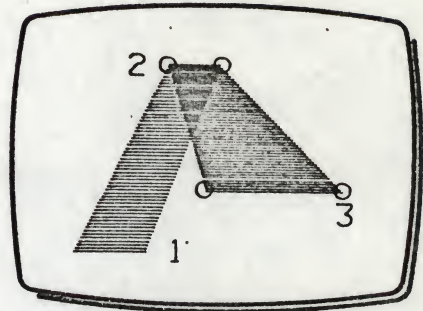

Fig 3
- 8 Press and release T to draw another nib stroke. The screen should resemble Fig 3.